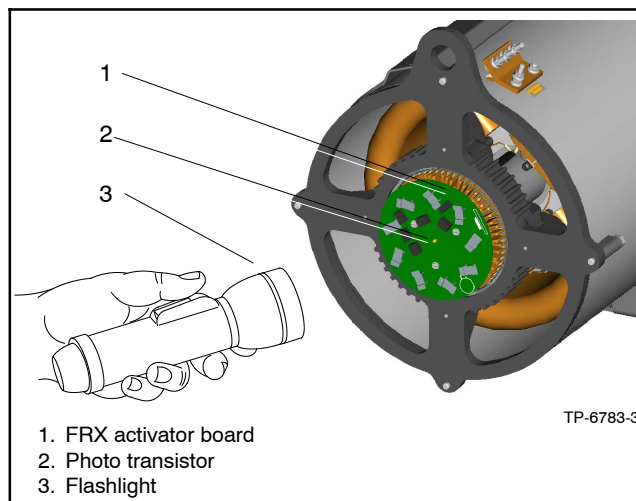

Figure 7-4 Flashlight Test on FRX Activator Board
2. Refer to the generator set operation manual for starting/stopping procedures. With the generator set running at no load, shine a flashlight at the exposed photo transistor on the FRX activator board. See Figure 7-4.